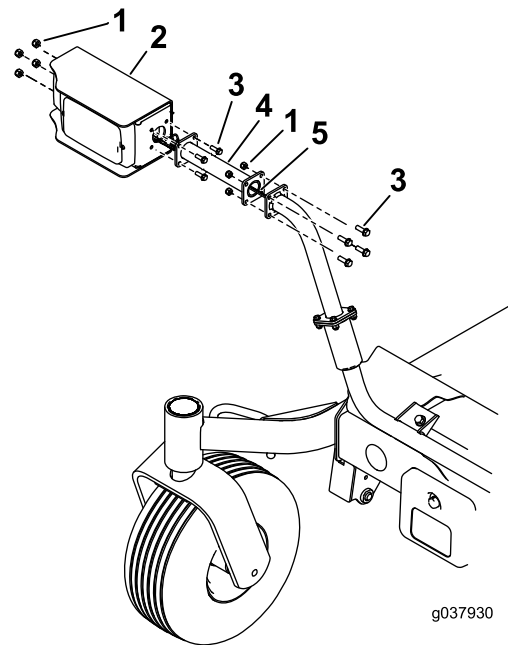

Figure 10
Note: The optional headlight extensions are for the 183 cm (72 inch) and 254 cm (100 inch) mower decks only (Figure 10).
2. If needed, install the headlight extension with 4 bolts (1/4 x 3/4 inch) and 4 locknuts (1/4 inch); refer to Figure 10.
3. Install the headlight to the extension or the headlight mount assembly with 4 bolts (1/4 x 3/4 inch) and 4 locknuts (1/4 inch); refer to Figure 10.